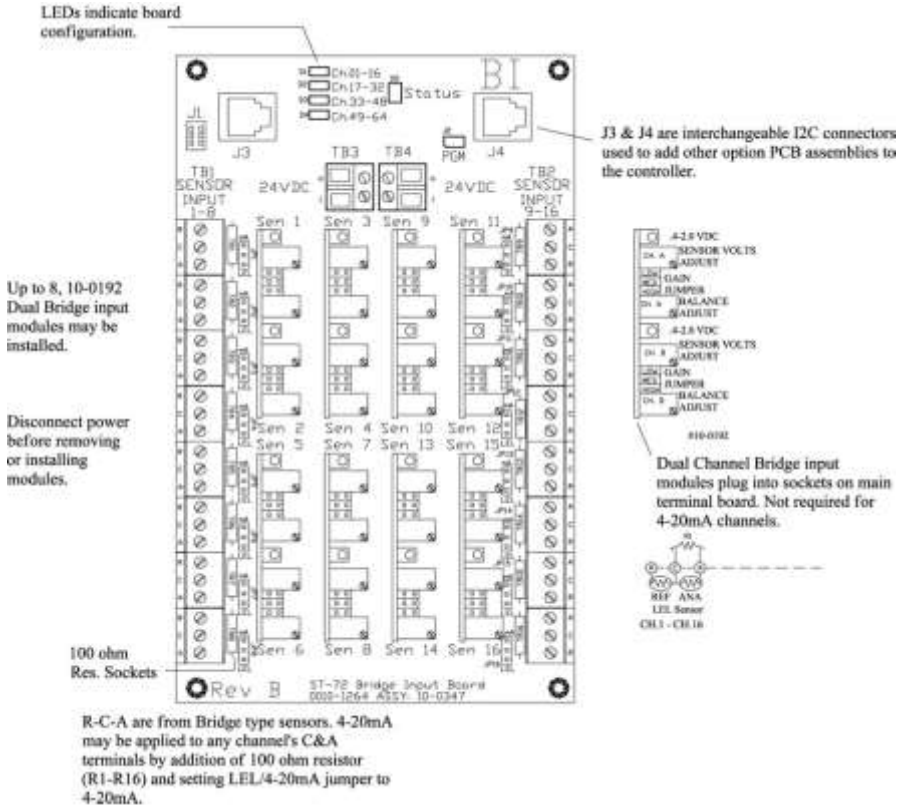

Figure 3-4
1. Prior to connecting sensors, apply power to the system. Note this board requires 24 VDC power be connected to its TB3 or TB4 terminals 1 & 2 as shown in Figure 3-4. Measure the voltage between each channel's A and R terminals and set the *Voltage Adjust* potentiometers for the correct sensor excitation voltage. This may range from 1.5 volts to 7.5 volts depending upon sensor specifications.